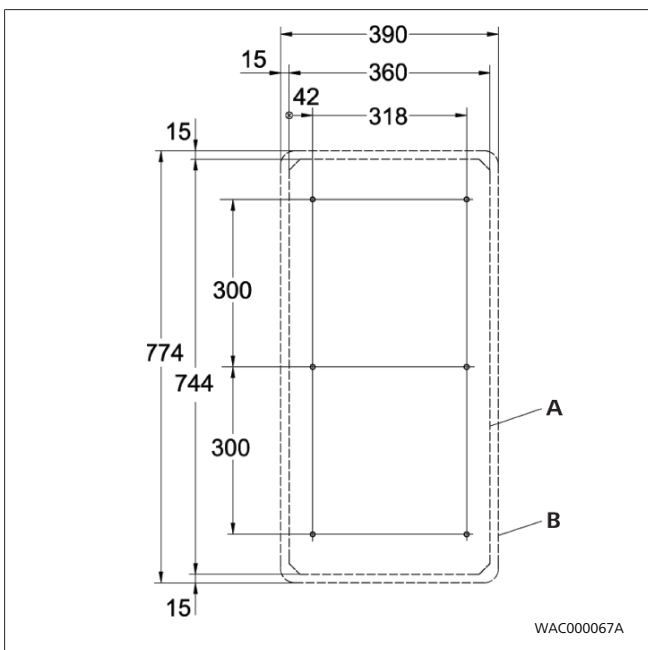

Fig. 5 Drilling pattern
- Fig. 5 shows the installation dimensions and the mounting hole pattern for the E-unit CC5. The cut-outs for the electrical connections and refrigerant hoses are off-centre in the base plate.